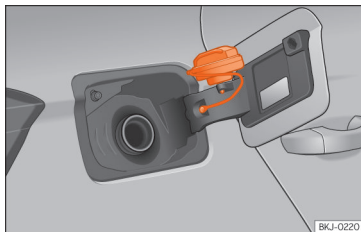

Fig. 57 Fuel tank flap with tank cap attached.
- Place it in the space on the hinge of the open flap »» Fig. 57.